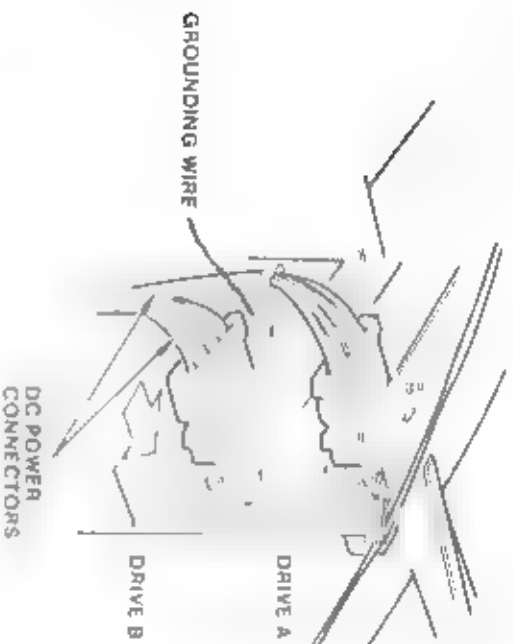

Figure 11-13 Diskette Power and Ground Connections
3. A number of multicolored 4-wire connectors come out of the power supply. Attach any available connector to the power connection on drive B (Figure 11-13). The power connector will only attach one way.
5. Attach the green grounding wire by pushing it onto its tab on drive B (Figure 11-13).